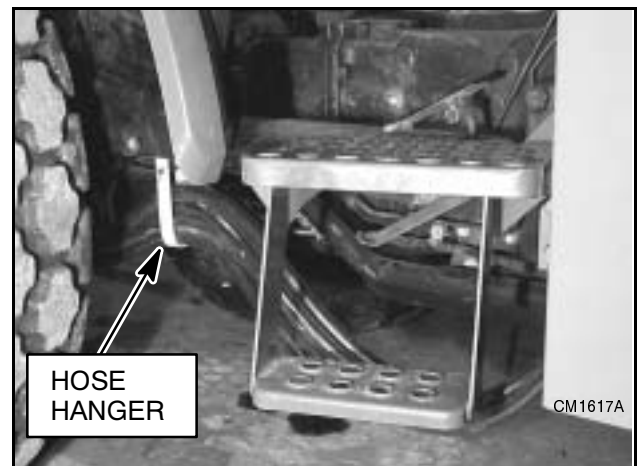
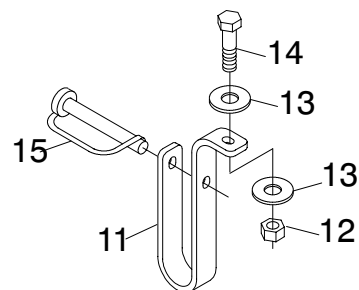

Figure 8 #58033 Hose Hanger Installed
Figure 9 Hose Hanger Assembly
1. Install hose hanger bracket beneath right side of the operator's platform as shown in Figure 8. Use cap screw, flat washers, and lock nut as shown in Figure 9.
2. Route hoses through support and secure with lock pin (15).